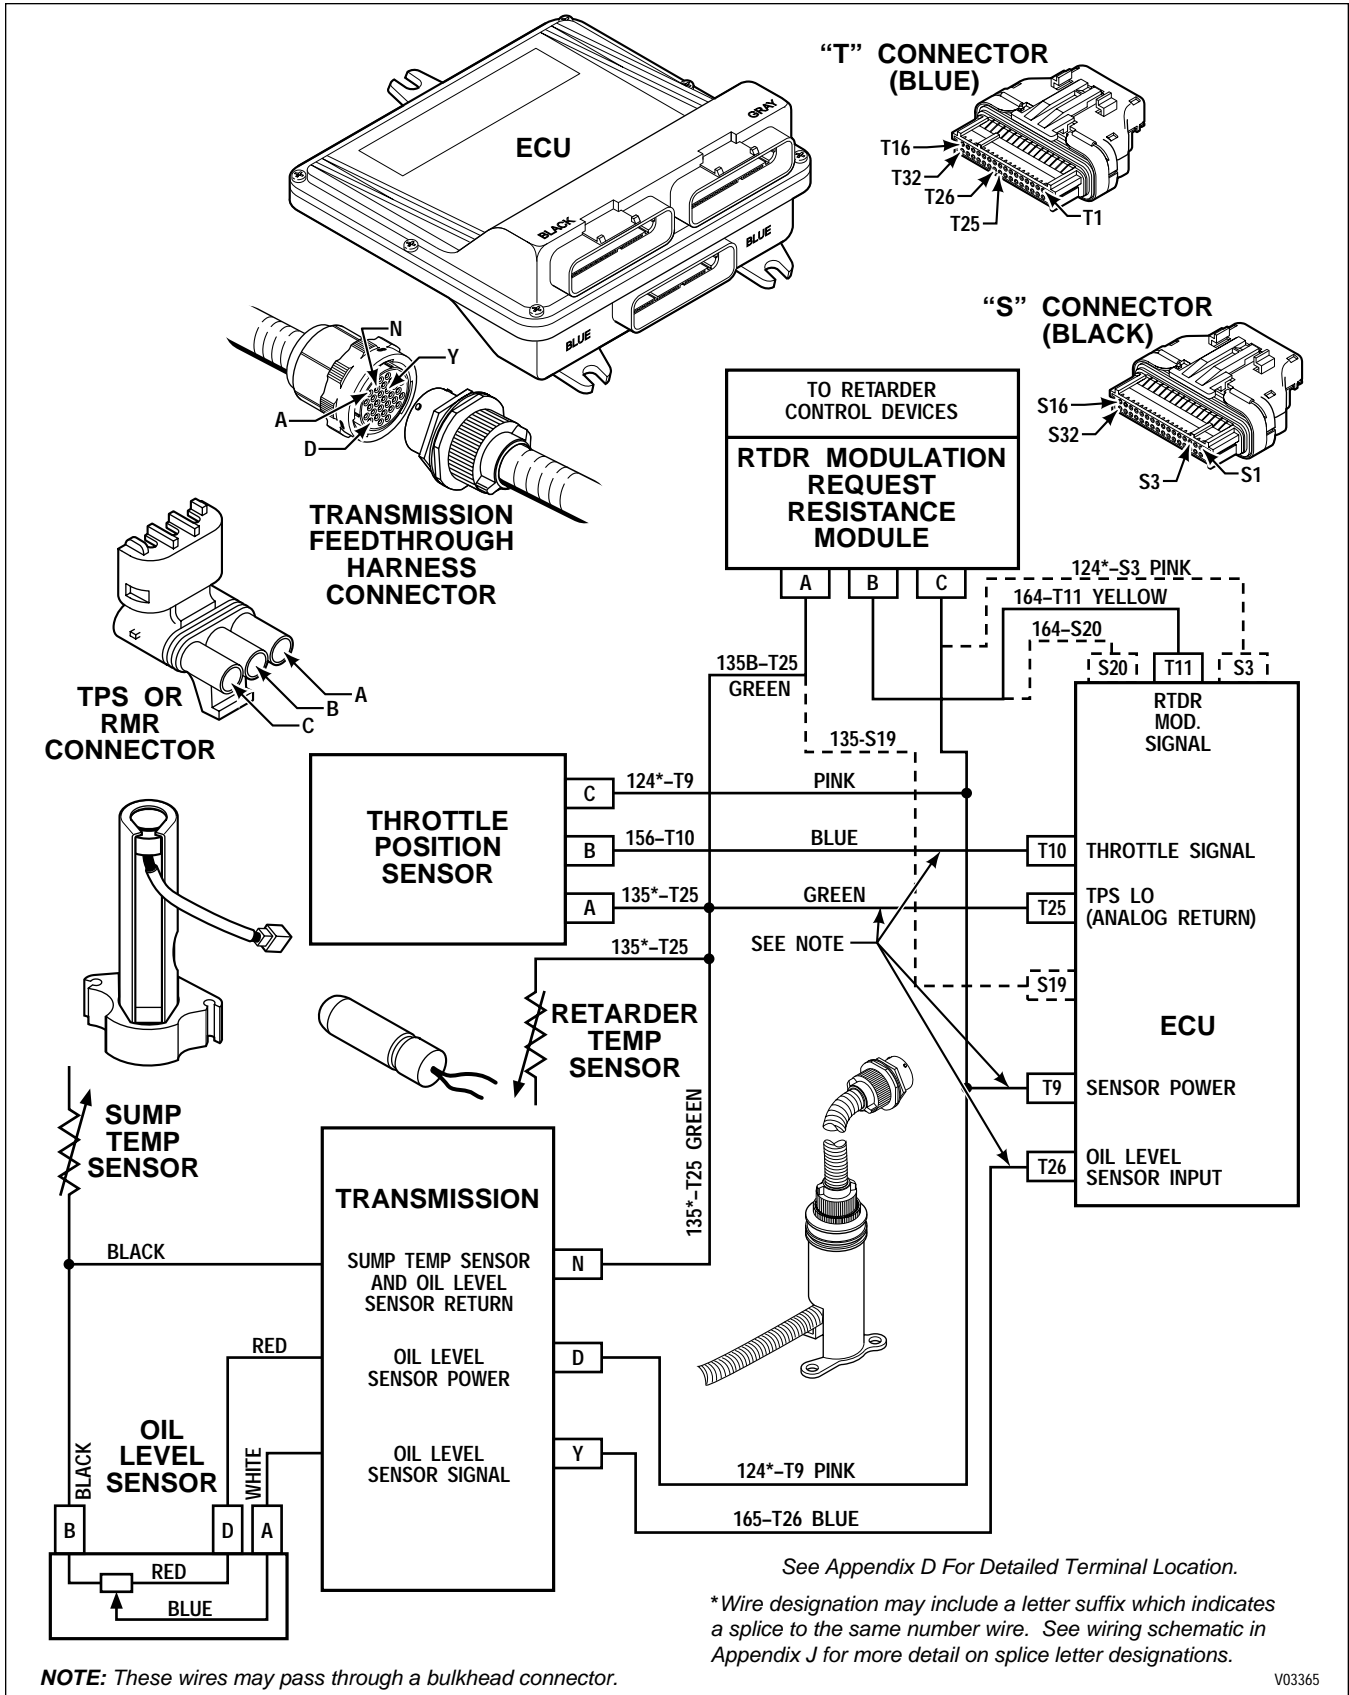

Figure 6-23. Code 64 Schematic Drawing
**CODE 64 XX — RETARDER MODULATION REQUEST DEVICE FAULT** (Figure 6-23)